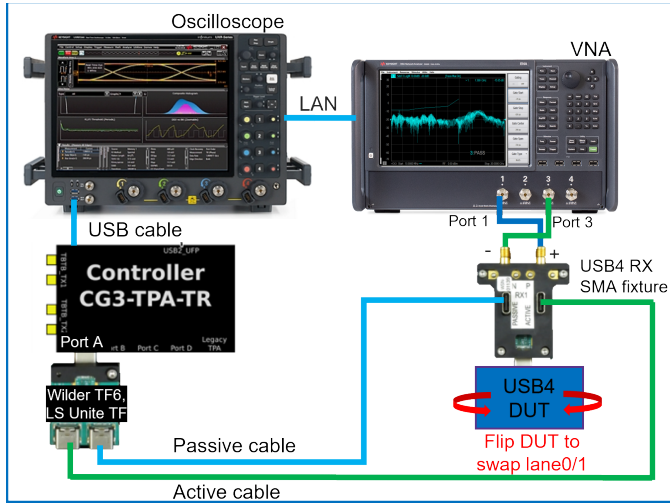

Figure 126 Tx Return loss test setup with Rx SMA test fixture
- 1 For the physical connections between the DUT & the Oscilloscope, see the connection diagrams in Figure 126 and Figure 127.